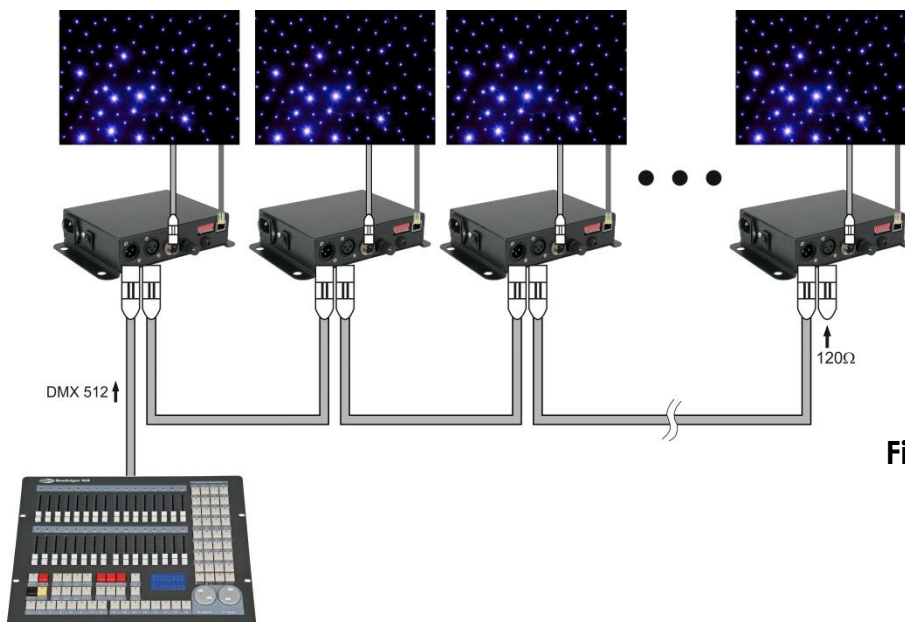

Fig. 4
3. Link the units as shown in (figure 4), Connect a DMX signal cable from the first unit's DMX "out" socket to the second unit's "in" socket. Repeat this process to link the second, third, and fourth units.